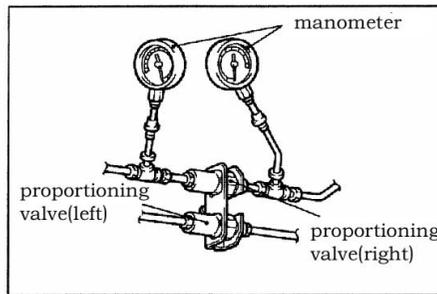

Fig. 16-11
(1) connect two pressure gauges to the outputport of the master culinder and output port of the proportioning valve.(see Fig.16-11)。